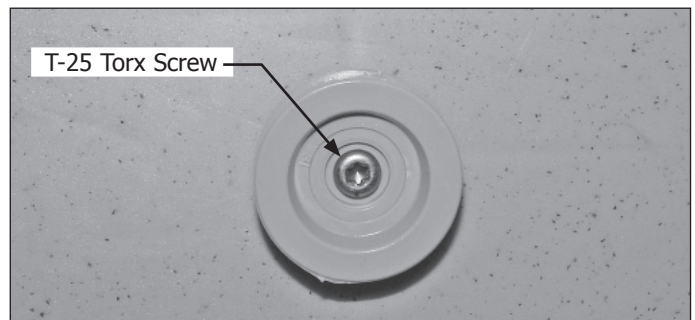

Figure 4-23.
2. Using a Torx T-25 bit, extract the screw securing each roller to the interior tub sidewall. (See Figure 4-23)